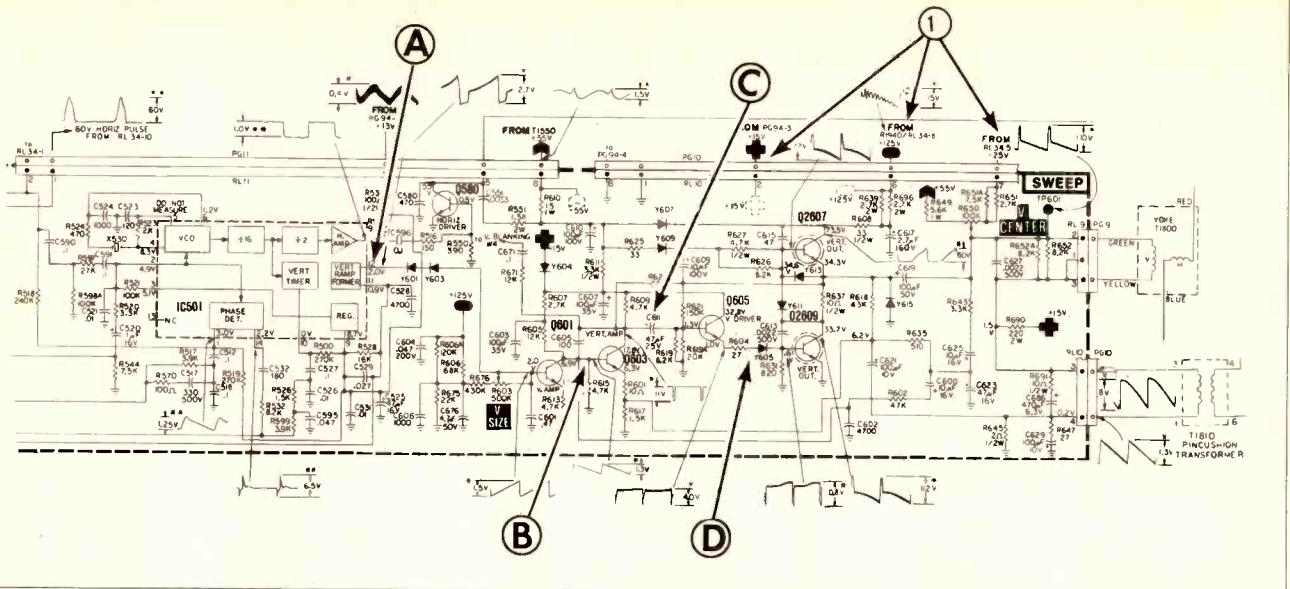

Fig. 5. Sweep module (partial).
The horizontal output collector voltage should be +110 Vdc. If not present, trace from the supply as in Fig. 5.
Check the supply voltages (1) (Fig. 5.); the +125 volts is derived from the +131 volt source.
If the power supplies are OK, the eighteen inch jumper and the .047 mfd capacitors can be used to inject vertical 60 Hz into the receiver's audio output stage (pin 11 of IC180). Referring to Fig. 5, a buzz heard at point A indicates that IC 501 is functioning, if heard at B, Q601 is OK, at C, Q603 is OK, and if heard at D, Q605 is functioning.